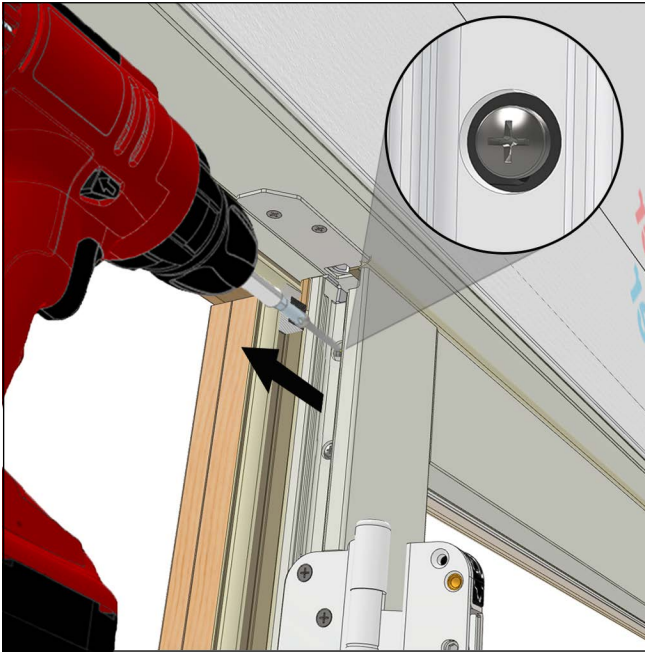

Figure 23
4. Remove one screw (pan head from each panel). See Figure 23.